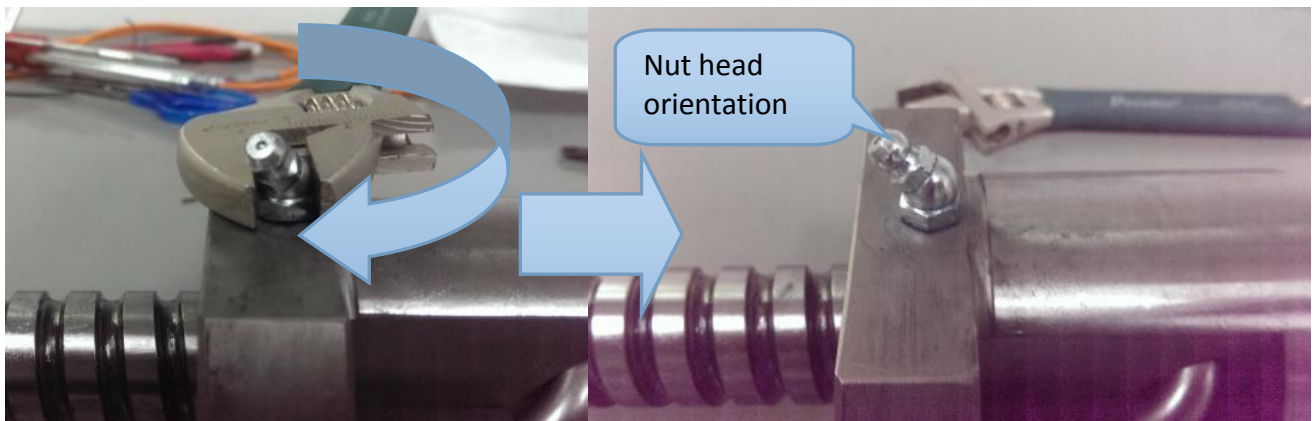

Figure 24 Y axis grease fitting assembly
26. Transfer the 4XAXY-046 to new Y axis ball screw and tighten with adjustable wrench. Once tighten, ensure the 4XAXY-046 nut orientation as below Figure 24.